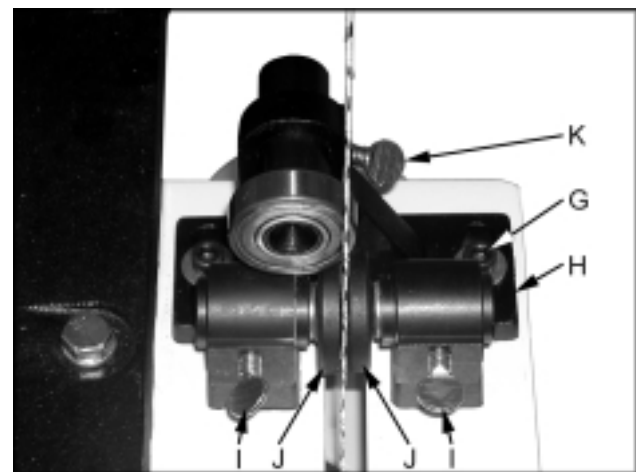

Fig. 4
2. The blade guard has been removed in Figure 4 for photo purposes only.
3. Loosen the socket head cap screws (G, Fig. 4) and position the blade guide assembly (H, Fig. 4) so that the guides rest just behind the gullet of the blade teeth. Tighten the socket head cap screws.
4. Loosen thumb screws (I, Fig. 4). Adjust guides (J, Fig. 4) so they rest lightly against the blade. Do not force the guide against the side of the blade. Tighten thumb screws.
5. Adjust the blade support bearing so that it is 0.003" away from the back of the blade, about the thickness of a piece of paper. To make this adjustment loosen thumb screw (K, Fig. 4) and slide the bearing, and bearing post into position. Tighten thumb screw.
Note: Blade support bearing should be adjusted so that the back edge of the blade overlaps the front face of the ball bearing by approximately 1/8". If adjustment is needed loosen thumb screw (K, Fig. 4) and turn the bearing shaft. Tighten thumb screw.